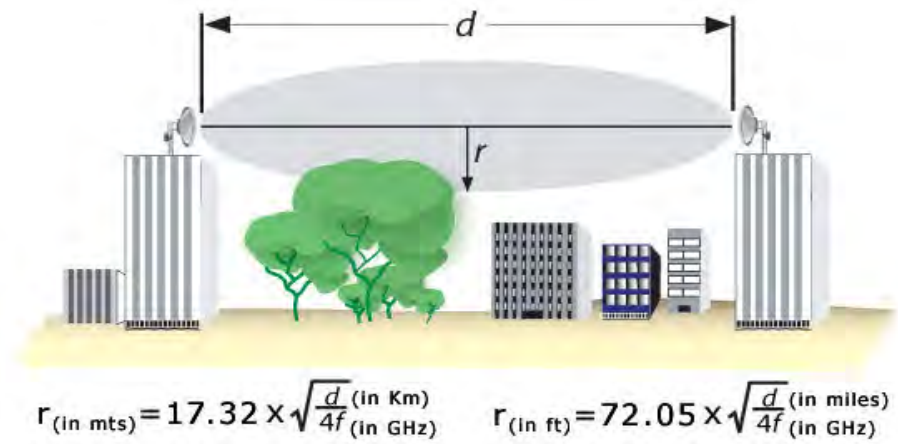

Figure 2-1: Fresnel Zone illustration.
- Ensure that the antenna has sufficient path clearance. The **Fresnel Zone** is the area around the visual line-of-sight that radio waves spread out into after they leave the antenna (see Figure 2-1). To maintain good signal strength is important to maintain sufficient path clearance. Typically, a 20% **Fresnel Zone** blockage introduces little signal. However, nearing 40% blockage the signal loss will become significant.